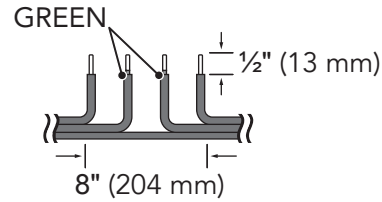

Figure 9. Heater and remote thermostat wiring schematic.
3. At the selected point of the heater cord, cut the green wire and one power lead. Split apart each wire on both sides into 4 inch (102 mm) segments. Strip the conductor ends approximately 1/2 inch (13 mm). See Fig. 9.